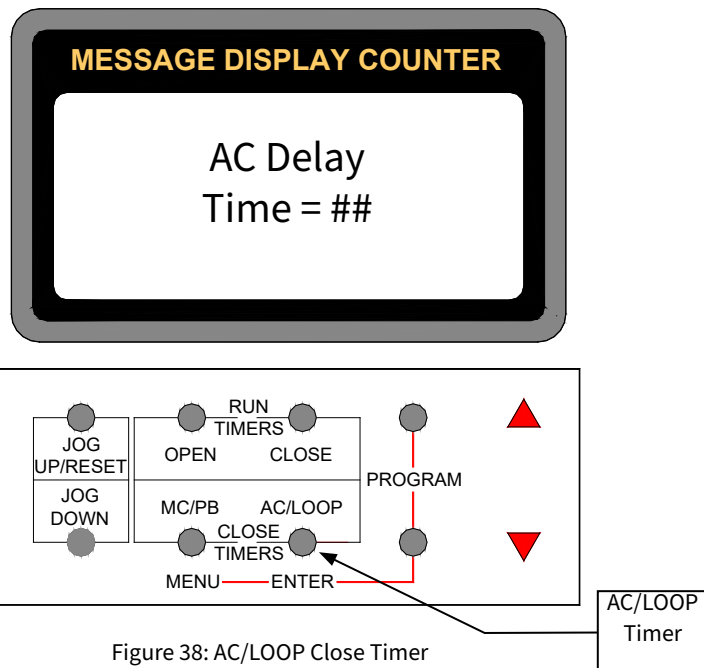

Figure 38: AC/LOOP Close Timer
- Press and release MC/PB close timer button. MC Delay_Time=## displays on the LCD. See Figure 38.